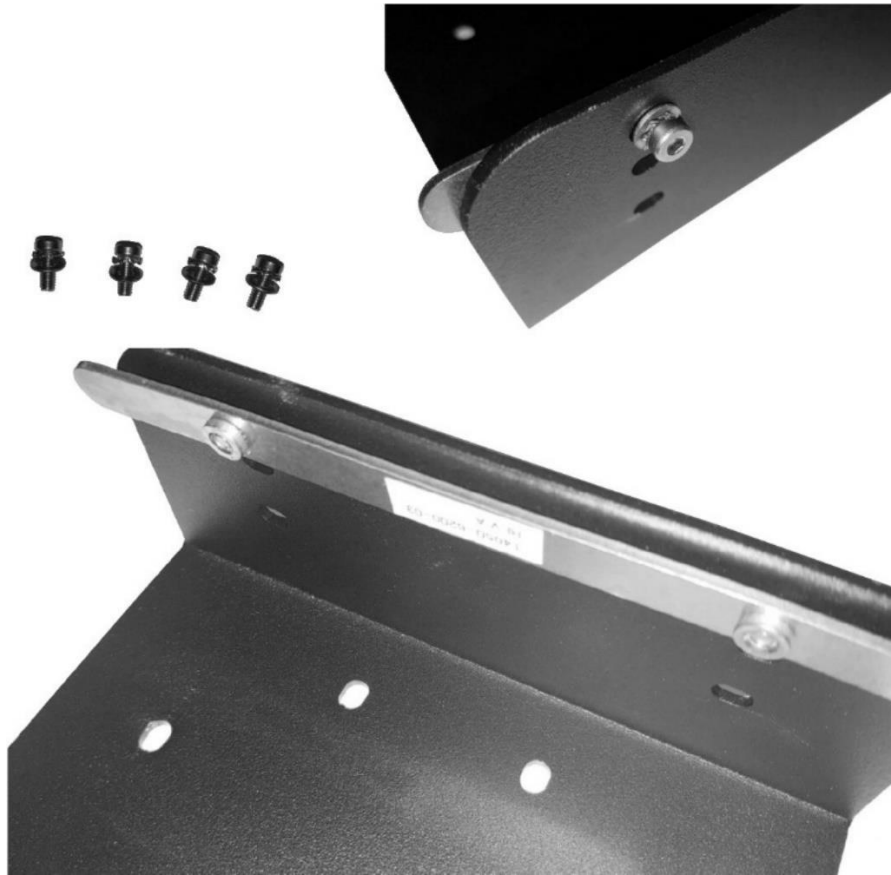

Figure 8-5: Install Side Rails in Mounting Bracket
1. The mounting bracket has three (3) mounting holes:
2. Loosely connect the rail plates to the mounting bracket using the socket head M4 screws, M4 star washers, and M4 flat washers. Tighten the screws approximately four (4) threads, ensuring they do not protrude beyond PEM nut on the rail plate (see Figure 8-5).